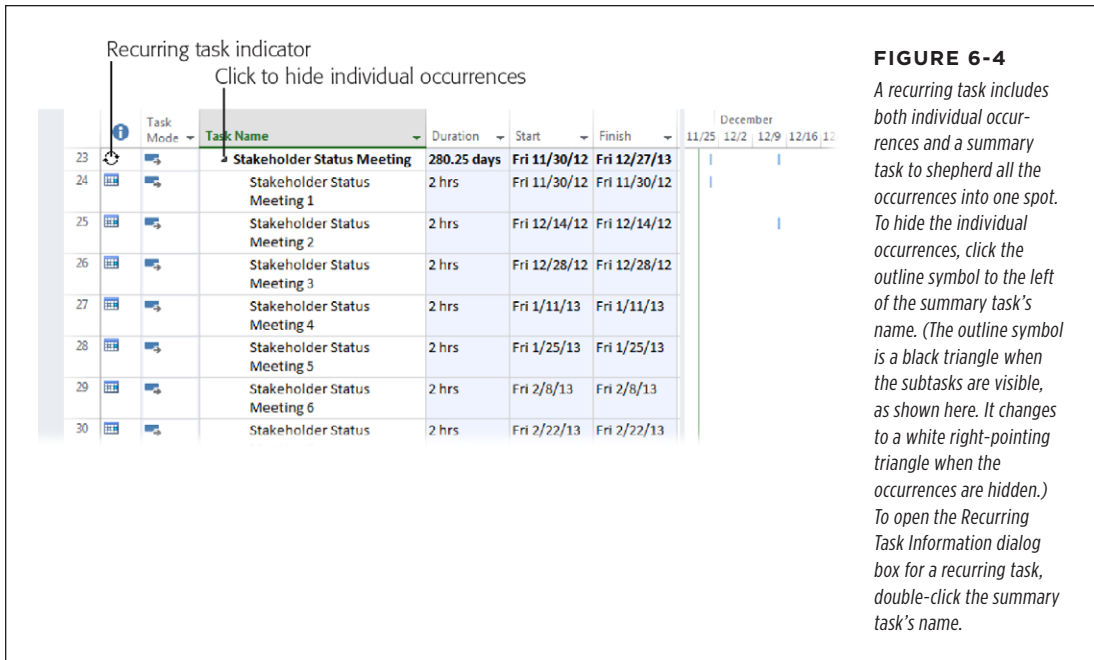

FIGURE 6-4
6. Click OK to close the dialog box and add the recurring task to the project, as shown in Figure 6-4.